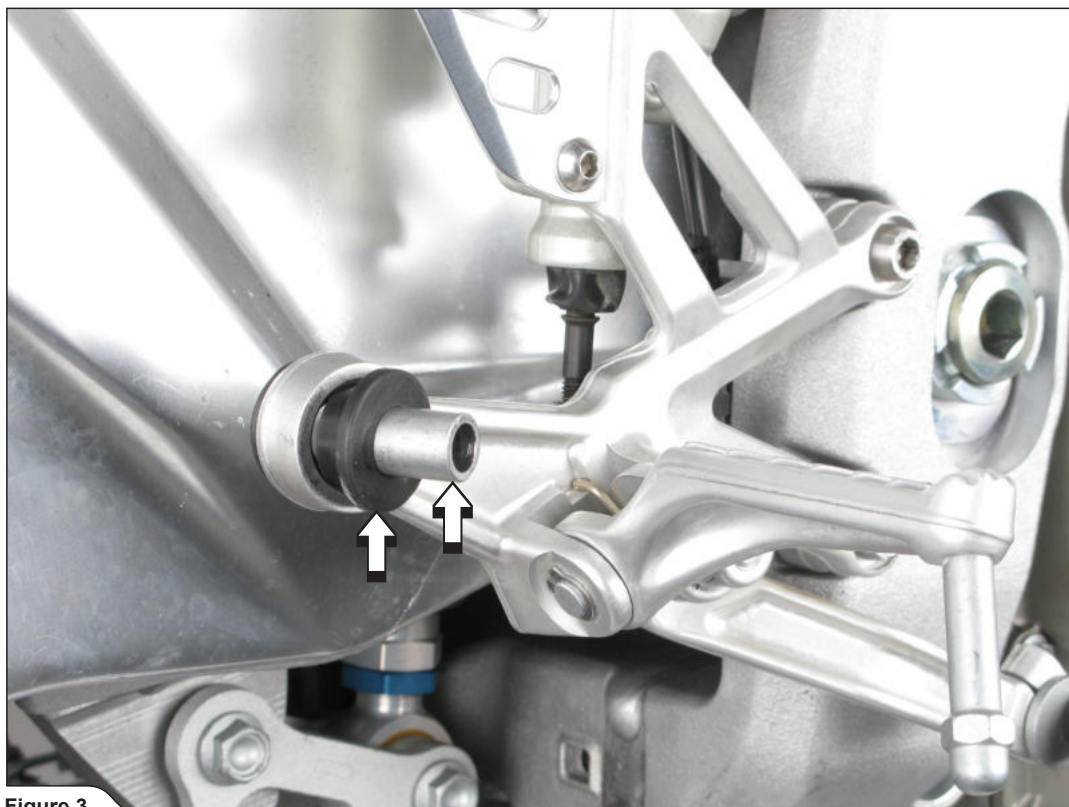

Figure 3
3. Remove the metal collar and rubber damper from the stock muffler hanging bracket (**Figure 3, 4**).